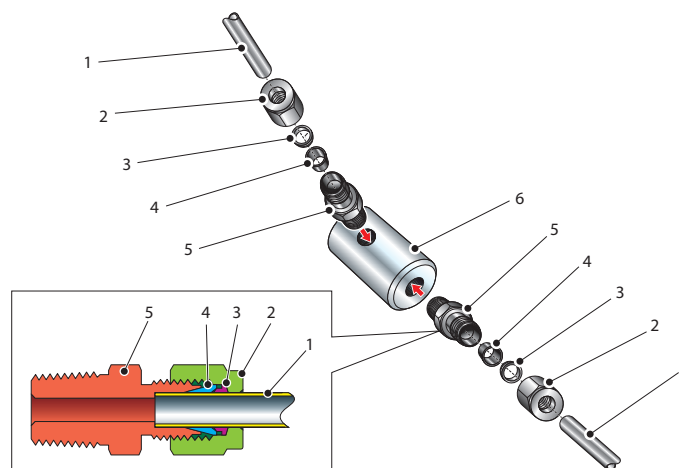

Figure 16 *Sample Block Gas Connections*
Sample gas connections are made to the Gas In and Gas Out ports on the sample block (see *Figure 16*). Either port on the sample block may be used as the Gas Input port (i.e. for connection purposes the ports are interchangeable).
Both the Input and Output gas connections are  $\frac{1}{8}$ " NPT. It is recommended that both the Gas Input and Output connections are made via  $\frac{1}{8}$ " NPT to 6mm or  $\frac{1}{8}$ " NPT to  $\frac{1}{4}$ " stainless steel tube adaptors (2...5 – *Figure 16*). The method of connection to the sensor block (6) is as follows:
1. Cut a suitable length of 6mm ( $\frac{1}{4}$ " U.S.) stainless steel tubing (1) to the correct length and, if necessary, bend to shape to suit the location of the sensor block assembly. **NOTE: To facilitate ease of connection to the port, at least 75 mm (3") of the tubing coming out of the Gas In port must be straight.**
3. Screw the  $\frac{1}{8}$ " NPT ( $\frac{1}{4}$ " U.S.) NPT Swagelok adaptor (5) into the  $\frac{1}{8}$ " NPT ( $\frac{1}{4}$ " U.S.) NPT inlet port in the sensor block (6) and tighten to a torque setting of 35 Nm (25 lbf-ft).
4. Pass the stainless steel tubing (1) through the locking nut (2). **NOTE: Threads towards the gas port.**
5. Fit the back ferrule (3) over the stainless steel tubing (1) with the bevelled end facing the back of the front ferrule (4).
6. Place the front ferrule (4) over the stainless steel tubing (1), bevelled end towards the adaptor (5).
7. Push the stainless steel tubing (1) as far as it will go into the adaptor (5) and tighten up the locking nut (2) finger tight.
8. Hold the adaptor (5) flats with a spanner and tighten up the locking nut (2) to a torque setting of 35 Nm (25 lbf-ft) (1¼ turns). This action compresses the front ferrule (4) and back ferrule (3) onto the tubing to form a gas tight seal.